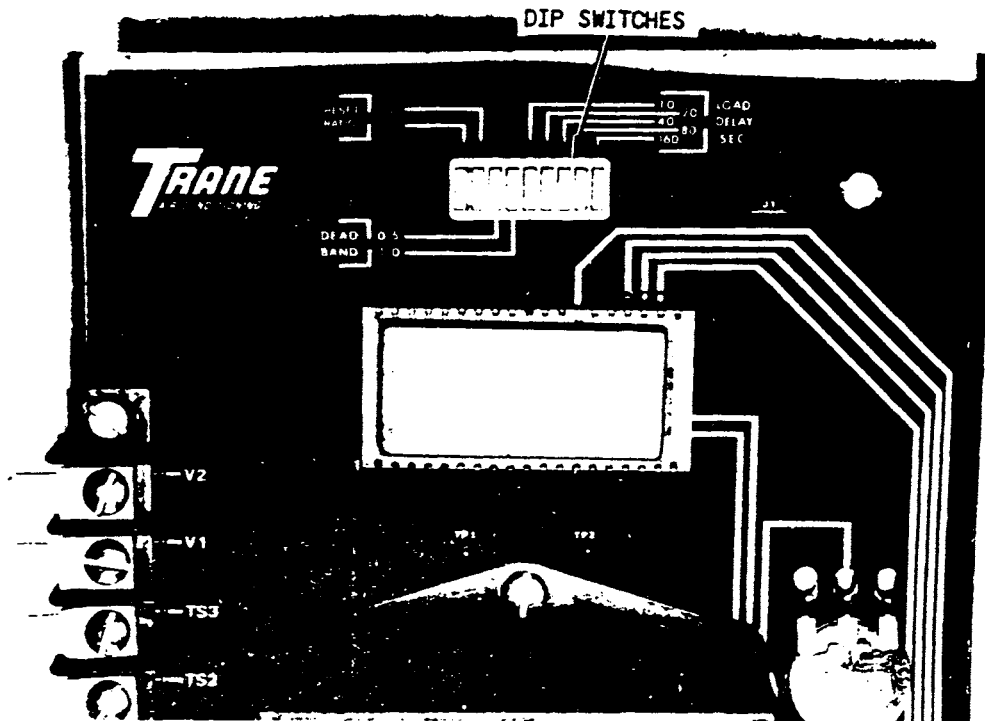

FIGURE 3 - Dip Switches (Back of Trane AGM Capacity Control Module)
1. Check the position of the dip switches located on the back of the control module. At least one of the dip switches of each component program (i.e., reset ratio, deadband, and load delay) should be positioned at ON. (The back of the control module is illustrated in Figure 3.)